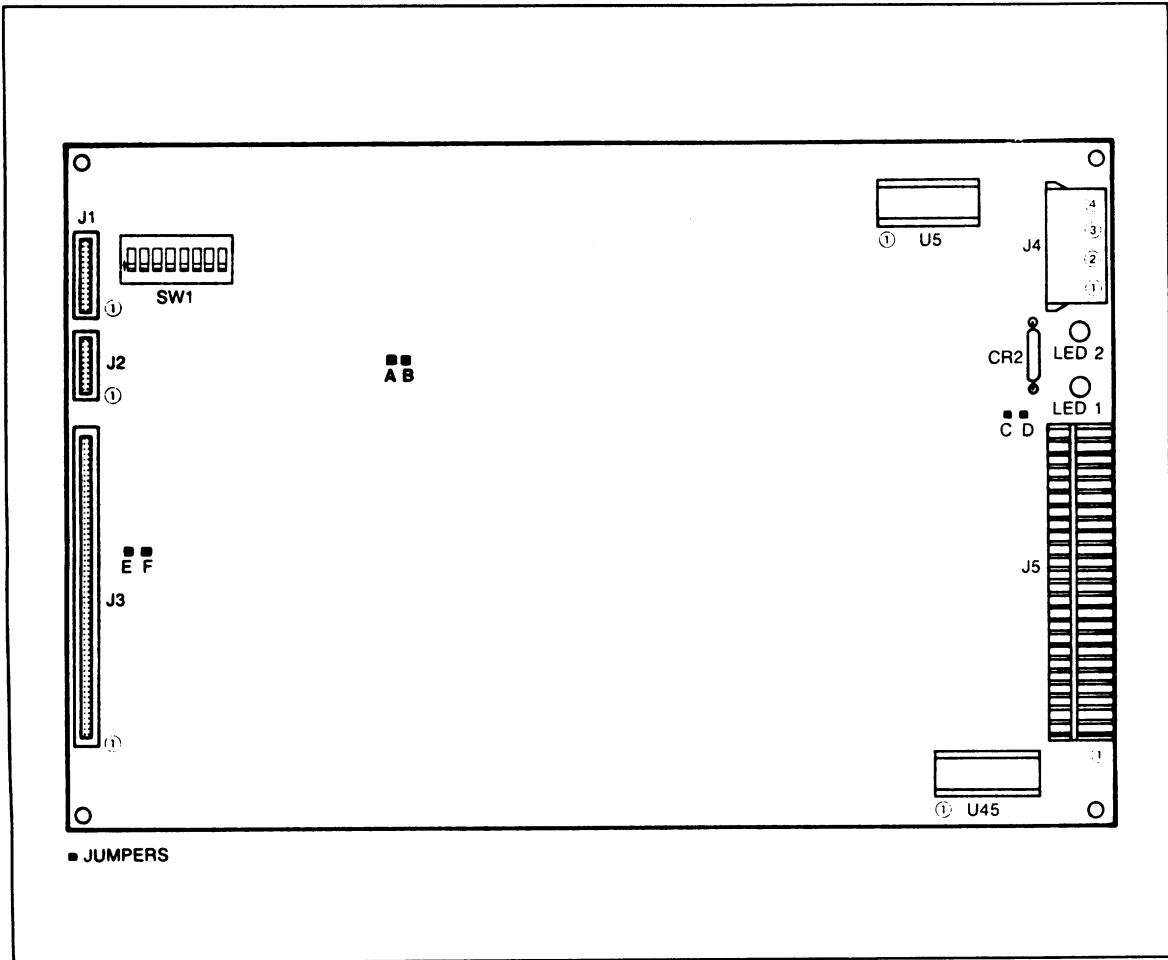

Figure 2-2 Tape Controller SCSI Bus Termination Resistors
6. *Optional.* SCSI bus termination resistors are shown in figure 2-2 as viewed from the top right hand side of the tape drive tray. Use a small screwdriver to remove DIP resistors U5 and U45.